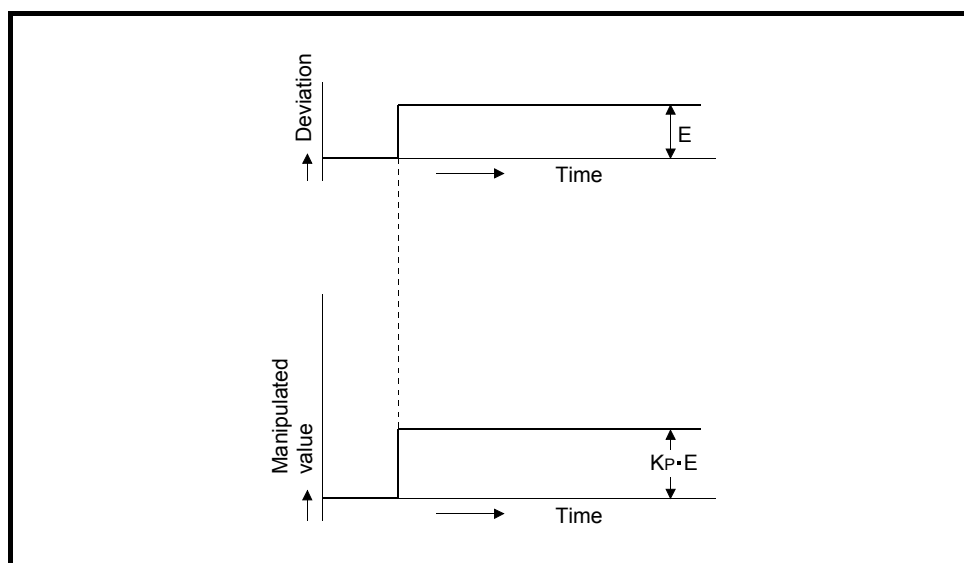

Fig. 1.7 Proportional action for step response
- (3) Figure 1.7 shows the proportional action for the step response with a constant deviation.
- (4) The manipulated value changes between -5.0% and 105.0 %.